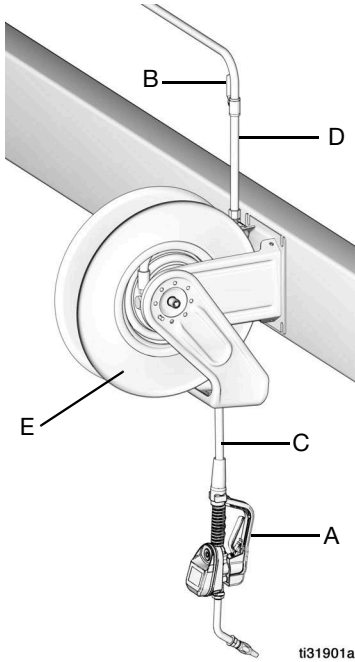

FIG. 6
The typical installation shown in FIG. 6 is only a guide. It is not a complete system design. Contact your Graco distributor for assistance in designing a system to suit your needs.
2. Close shut-off valve (B, see FIG. 6, page 9).
1. Close the fluid shut-off valve (B, see FIG. 6, page 9) at each dispense position.
4. Slowly open the shut-off valve (B) at the dispense position. Flush out a sufficient amount of oil to ensure that the entire system is clean; then close the valve.